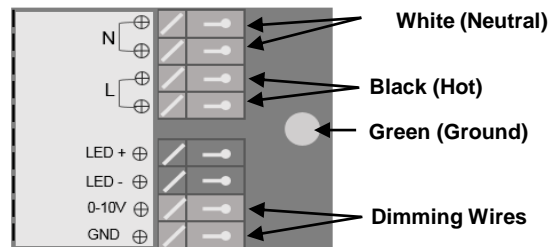

Figure 3
5. **Installing Earthquake Clips:** (See Figure 3)